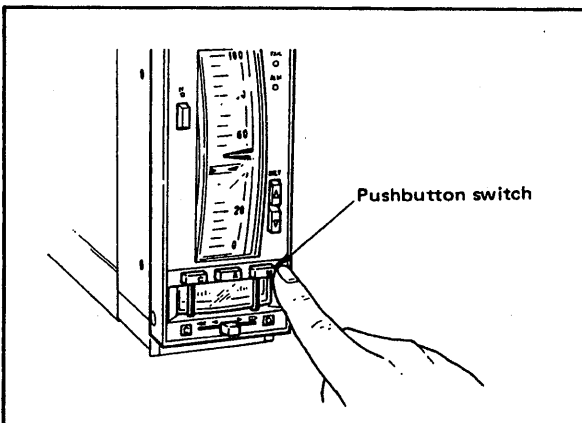

Figure 5-3-1. Selecting Manual Mode.
(1) Manual operation with the manual operation lever
- a. Press the **M** mode transfer switch. (Its built-in indicator lamp comes on.) (See Figure 5-3-1.)